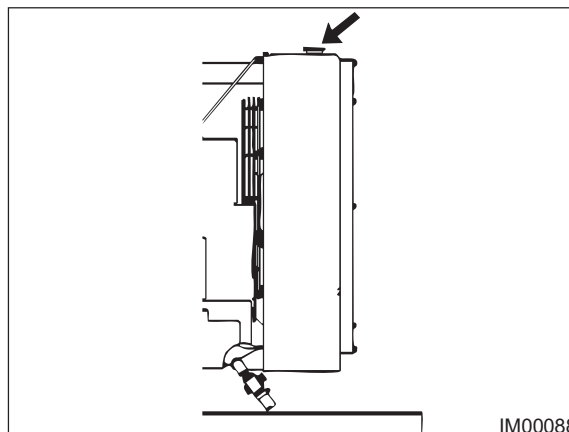

Fig: 11.27 - Filler Cap
4. Remove the cooling system filler cap slowly in order to relieve pressure (Fig: 11.27).